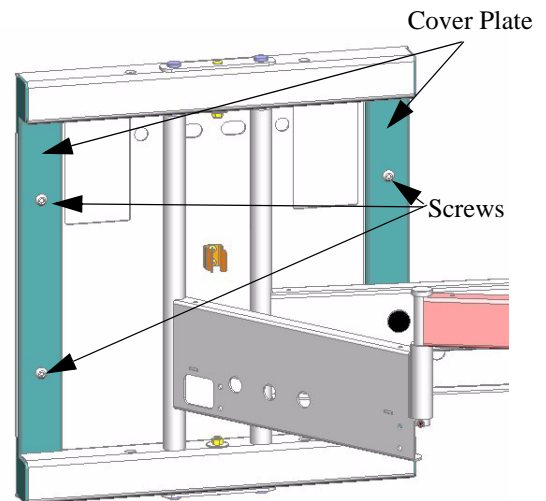

Figure 1. Cover Plate Removal
2. Remove four screws (two each side) and two cover plates (one each side). See Figure 1.
8. Install two cover plates and secure using four screws (see Figure 1).